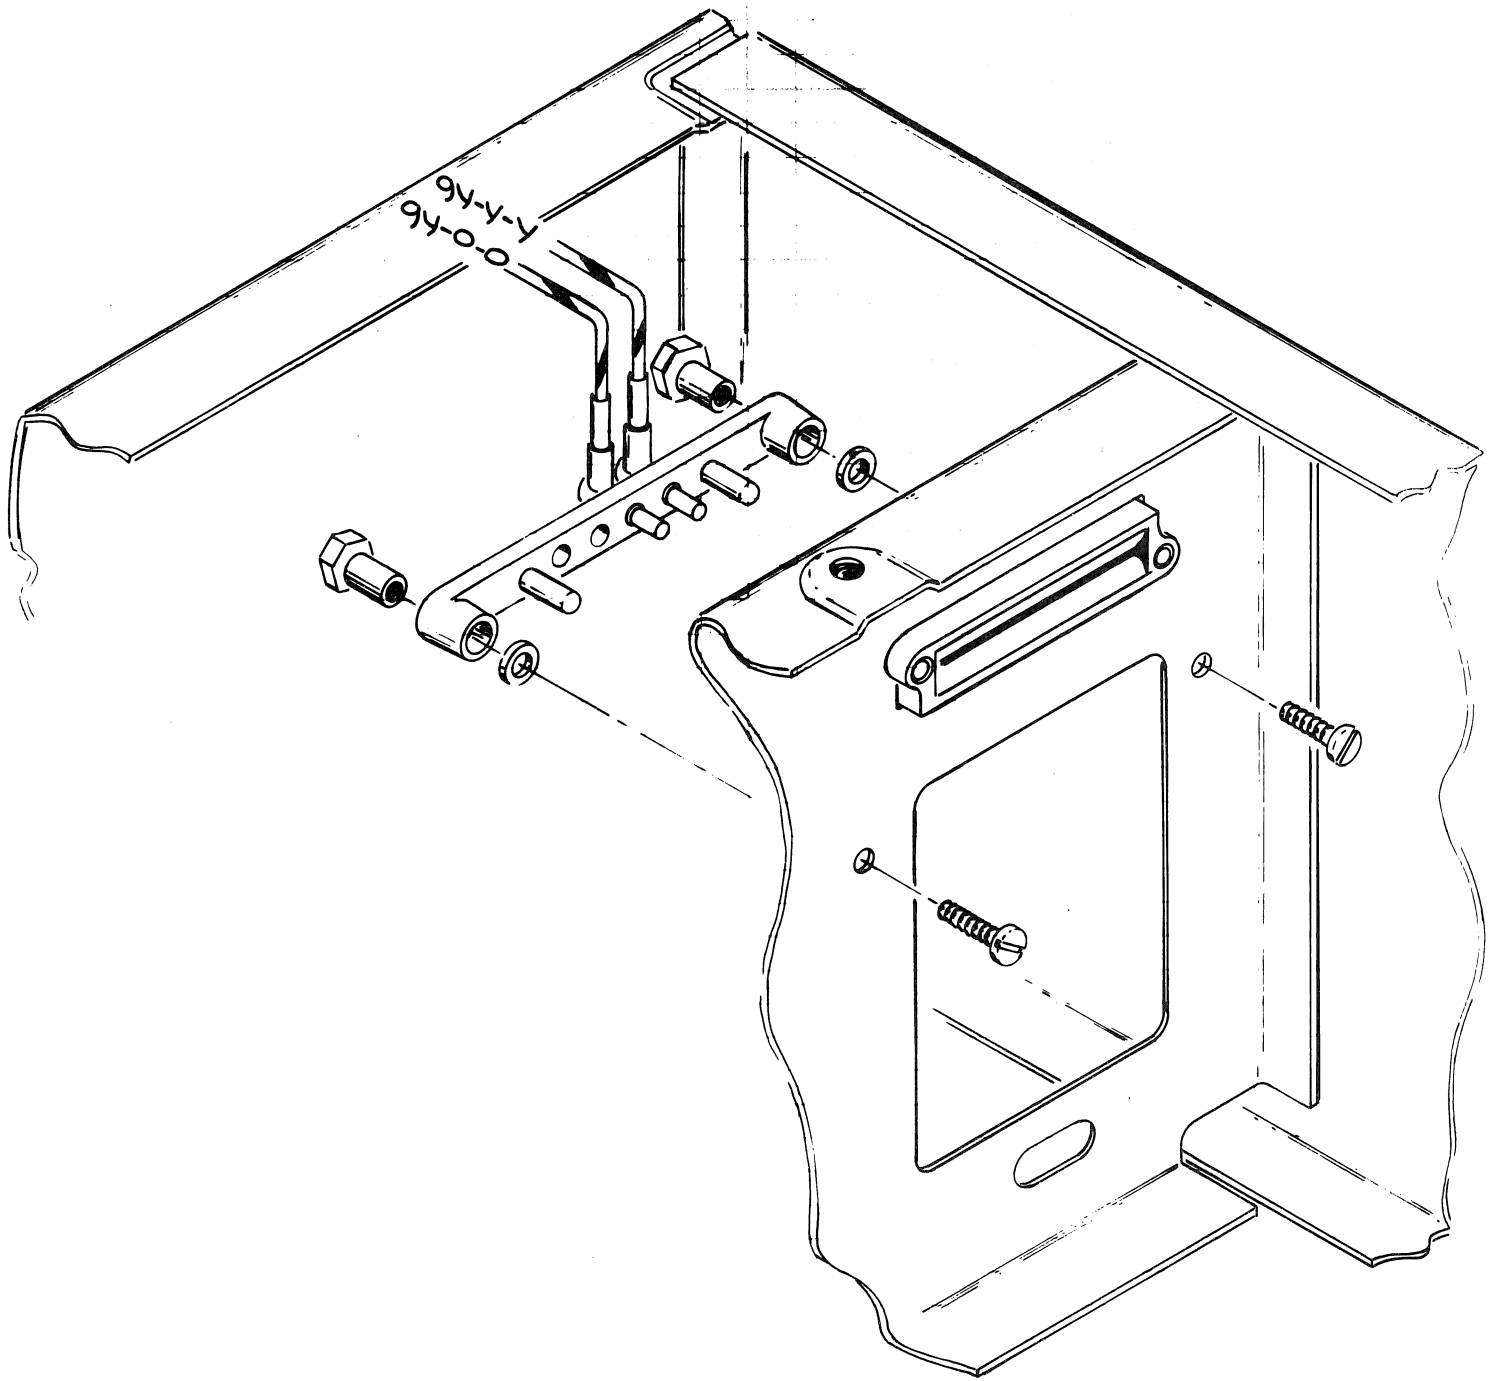

Fig. 6
- ( ) 3. Mount the connector assembly (from kit) as indicated in Fig. 6 (make sure connectors are in positions shown). Use the 6-32 x 1/2 PHS screws, spacer nuts, and flat spacers from the kit.